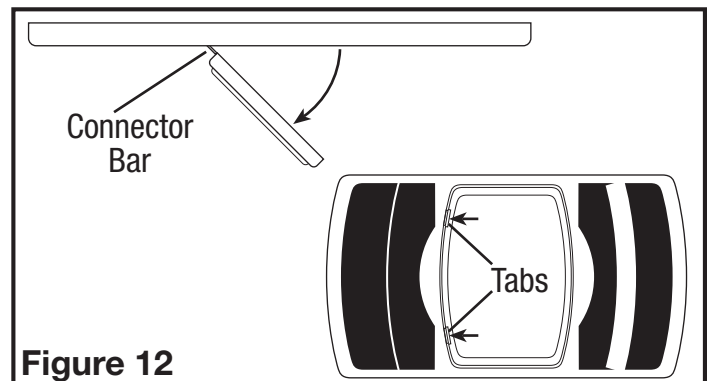

Figure 12
2. Remove grill from carton and open light lens area by pushing in on the two tabs of the light lens and pulling outward from lens. The lens will swing open on the connector bars. DO NOT remove the lens from the grill (**Figure 12**).
6. Close the light lens and secure in place by swinging back into position and snapping the tabs in place (**Figure 12**).
3. **Changing the Light Bulb:** Disconnect power to the unit. Open light lens by pushing in on the two tabs of light lens and pulling outward from lens. The lens will swing open on the connector bars. DO NOT remove the lens from the grill (**Figure 12**). Unscrew bulb from lamp holder and replace with a 100 watt maximum, type A19 medium base incandescent bulb.